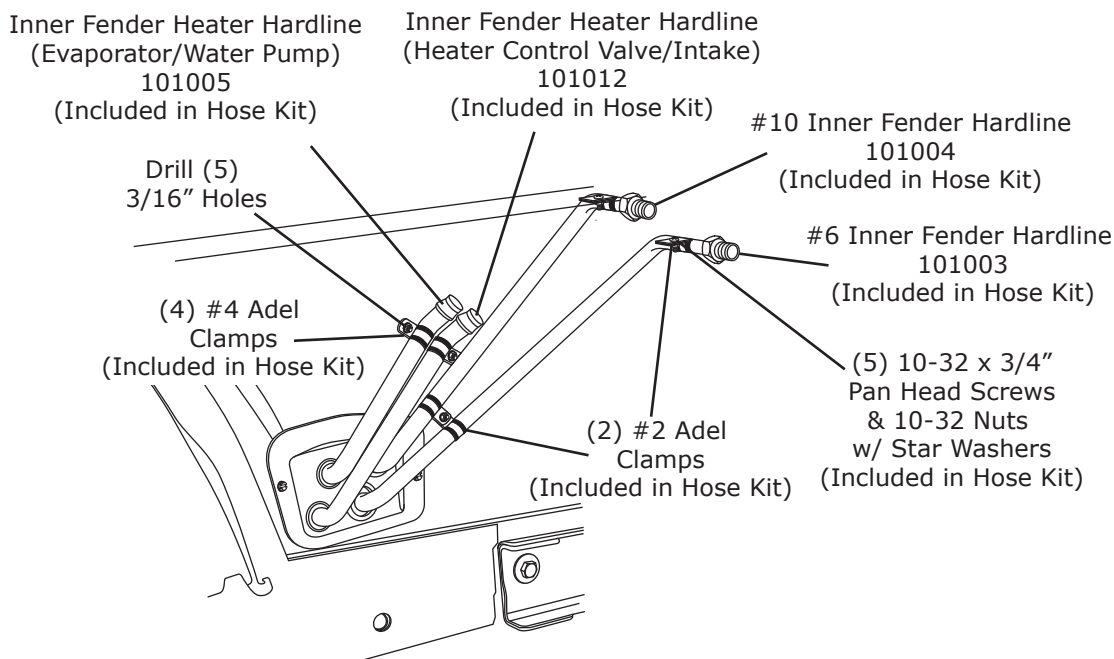

Figure 10b
4. Install hardlines in inner fender cap as shown in Figure 10b, below.
5. Install Adel clamps onto hardlines as shown in Figure 10b, below.
6. Using Adel clamps as a guide, drill (5) 3/16" holes in inner fender. Secure Adel clamps and hardlines to inner fender using (5) 10-32 x 3/4" pan head screws and (5) 10-32 nuts with star washers as shown in Figure 10b, below.